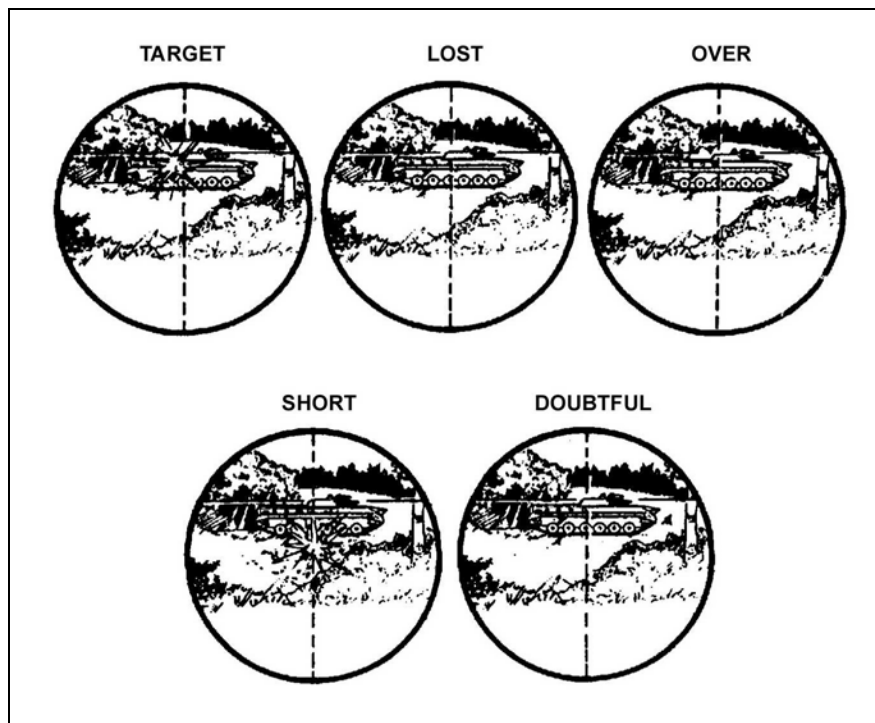

Figure 6-26. Target observations.
(1) The BC might have to lay the gun for direction if the gunner's scan is far from the target. The BC releases control to the gunner (target handoff) and issues the fire command. For the Bradley A3 crew, the BC can use TARGET DESIGNATE to lay the gunner on the target.
(2) On acquiring the target, the gunner discriminates the target as "*Friend*," "*Unknown*," or "*Doubtful*..." He announces "*Identified*," centers the target in his field of view, and switches to high magnification. Depending on the situation (range, visibility, and his level of experience), the gunner might have to switch to high magnification before he can discriminate the target, and then he announces, "*Identified*."
(3) The gunner ranges the target with the ELRF before announcing "*Identified*" or "*On the way*" (Bradley ODS and A3s). This ensures that he has lased the target or that he can announce the range readout from the ELRF.
(4) The BC then confirms the target, gives the command FIRE. Then, he either observes the target and provides corrections to the gunner, or he searches for other targets.
(5) The gunner completes his switch checks by--
(6) Lasing or selecting the announced range (if other than the battlecarry) in the ISU or IBAS. If using the auxiliary sight, he does not select range.
(7) Selecting the ammunition and weapon.
(8) Arming the system.
(9) Establishing the correct sight picture (depending on target type, ammunition, target, or BFV motion).
(10) Announcing "*On the way*" and firing.
b. **Observations.** Everyone tries to observe where the round strikes relative to the target. If the gunner sees where the round goes, he announces at once that he does so, using specific terms (Figure 6-26, page 6-30). This tells the BC that the gunner has control of the engagement and needs no subsequent fire command. It frees the BC to perform other tasks such as acquiring more targets, controlling the driver, navigating, or communicating. Only if the gunner announces "*Lost*," indicating that he did not see where the round went or where it struck, does the BC announce what he saw. If he does, he uses the same terminology. If the BC must also announce "*Lost*," then the driver must announce what he saw. The crew uses the following terms to describe where they observed the round go: